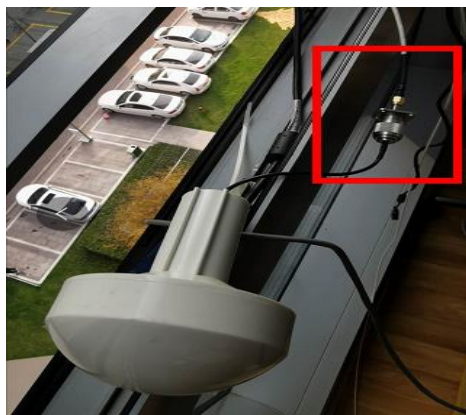

Figure 3-21 Connection diagram between GPS and feeder using straight head
- 2) Figure 3-21 Connection diagram between GPS and feeder using straight head shows the requirements for the length of GPS antenna cable in several occasions. The GPS and the feeder are connected with a straight head, as shown in Figure 3-21 Connection diagram between GPS and feeder using straight head.